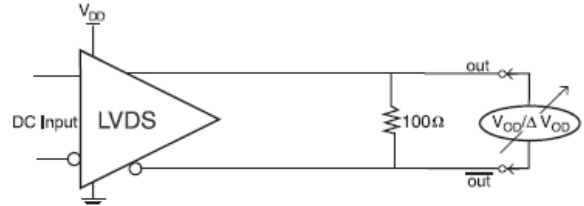

Figure 12.  $V_{OD}$  and  $\Delta V_{OD}$
6.  $V_{OS\ max} + \frac{1}{2} V_{OD\ max}$ . Also see Figures 12 and 13.
7.  $V_{OS\ min} - \frac{1}{2} V_{OD\ max}$ . Also see Figures 12 and 13.